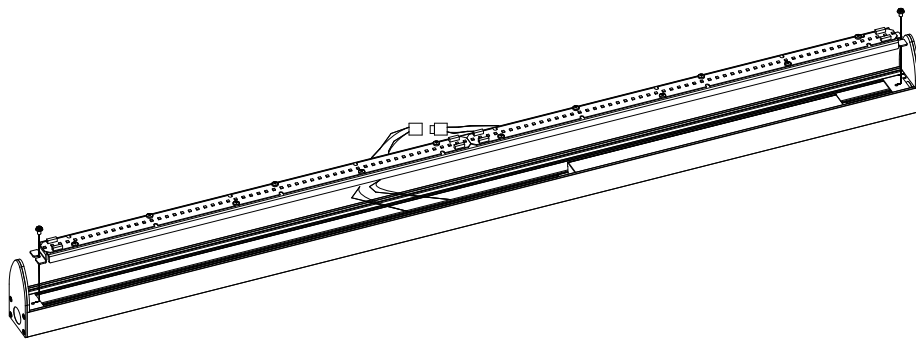

Figure 2
2. Remove the screws that secure the LED bracket. See Figure 2.
3. Remove the screws that secure the LED bracket. See Figure 2.